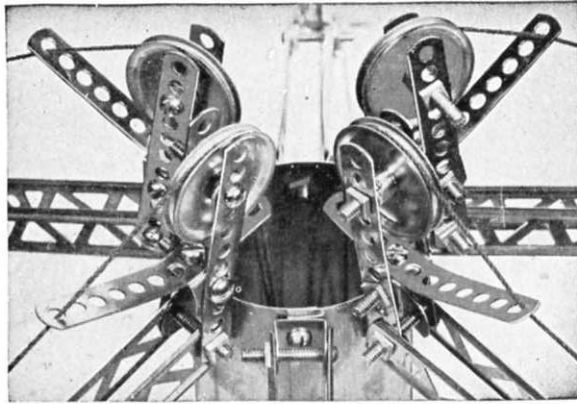

FIGURE 5
In Figure 5 you will see the (B) 5" girders fastened to the boiler with (M) small double angles. To four of these small double angles are fastened 2 (H) 11 hole strips which support the P7-A pulleys over